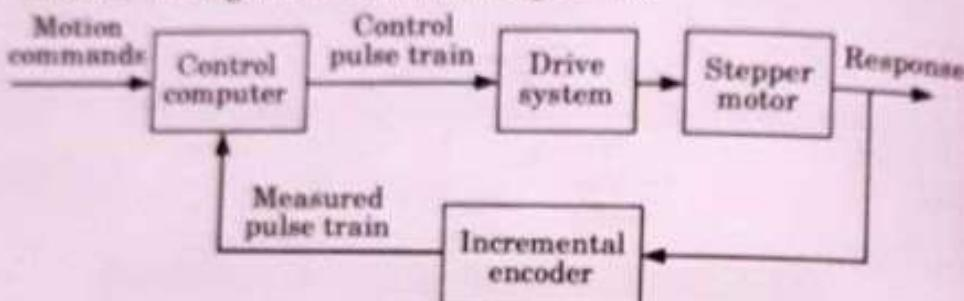

Fig. 2.16.2. Feedback control of a stepper motor.
3. Such an arrangement is shown in Fig. 2.16.2.